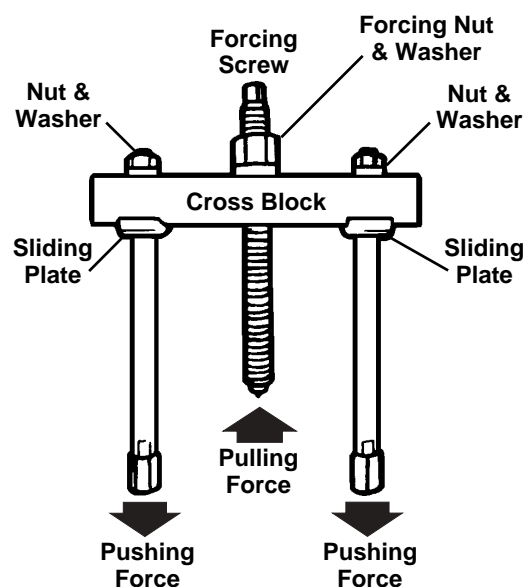

Figure 2
- Insert the forcing screw into the cross block with the forcing nut and washer assembled **above** the cross block. See Figure 2.
- Slide a leg assembly into each end of the cross block with the nuts and washers assembled **above** the cross block and the sliding plates assembled **below** the cross block. See Figure 2.